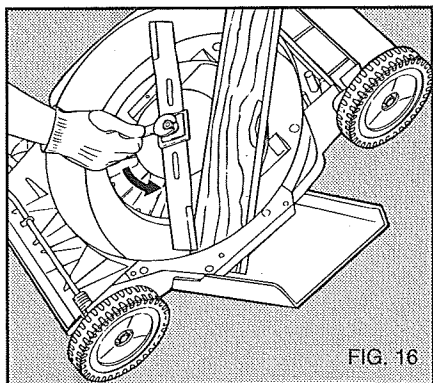

FIG. 16
3. Wear gloves. Position wood and remove nut as shown in Figure 16.